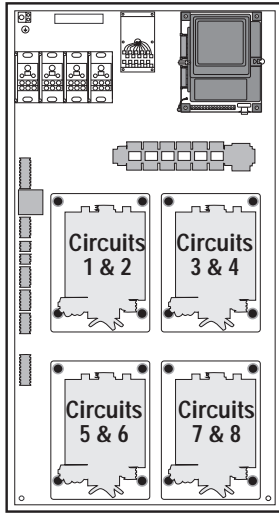

Figure 14: 50 amp transfer switch circuit assignments
2. Connect a Neutral wire for each dimmer circuit to terminals **NN1** and **NN2** on the right side of the transfer switch assembly. See Figure 14, left, to match switch assemblies to loads.
2. Connect a Neutral wire for each lighting load to terminals **LN1** and **LN2** on the left side of the transfer switch assembly. See Figure 14, to match switch assemblies to loads.